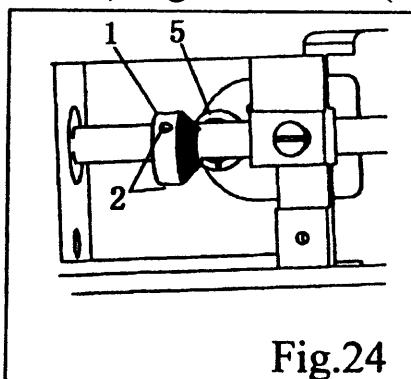
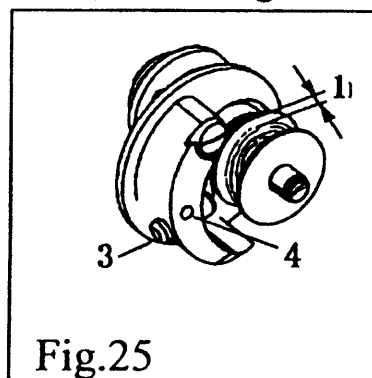

Fig.24
Fig.25
10) Bobbin Winder (Fig.24 Fig25)
① When the bobbin winder is activated the spindle should also be activated: when the bobbin winder is deactivated the rubbing wheel 5 should not stand next to the drive wheel
② The bobbin winder should switch itself off when the filled quantity is still 1mm from the edge of the bobbin.